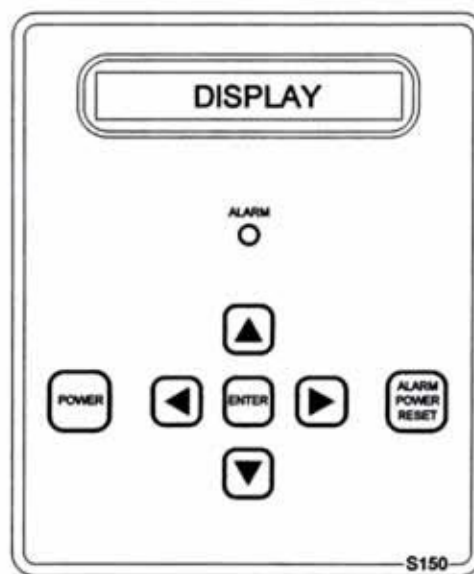

Figure 1
- 1) Refer to Figure 1 for the location of the keys used to display or change the set points and the Electrical Schematic for the location of the write protect jumper, J3. For the unit to be able to accept a change in a set point, the shorting jumper must be in the off position(center and left pins).